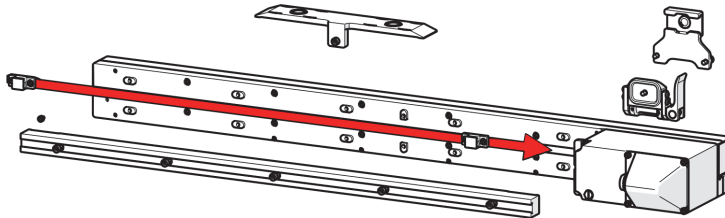

Figure 2-52 Replace cable management clip
10. Slide the cable management clips onto the raster arm (see Figure 2-52 on page 82).